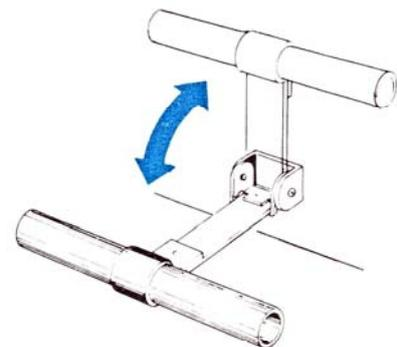

Fig. 8
- Refer to "AM Reception" on page 8. With an AM station tuned in, position the ferrite antenna for optimum pickup. See Fig. 8.